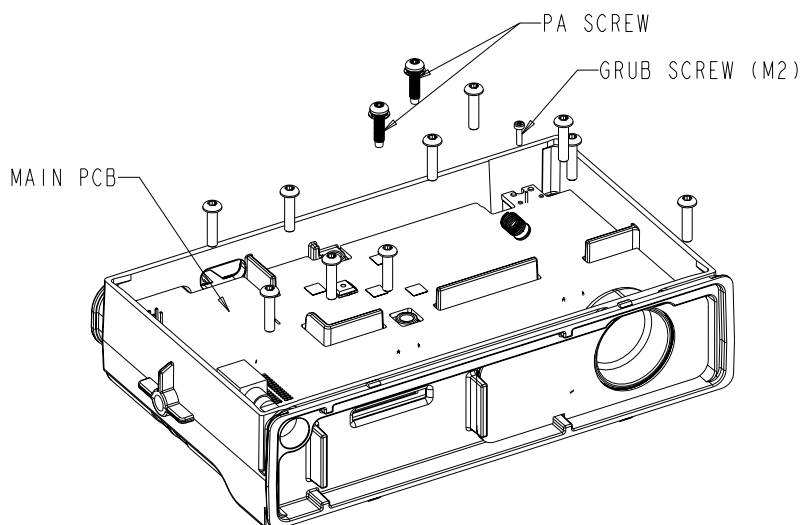

Figure 2-10 PA Clip and Main PCB Removal (for High Power Models)
1. Remove the PA screws. See Figure 2-10.